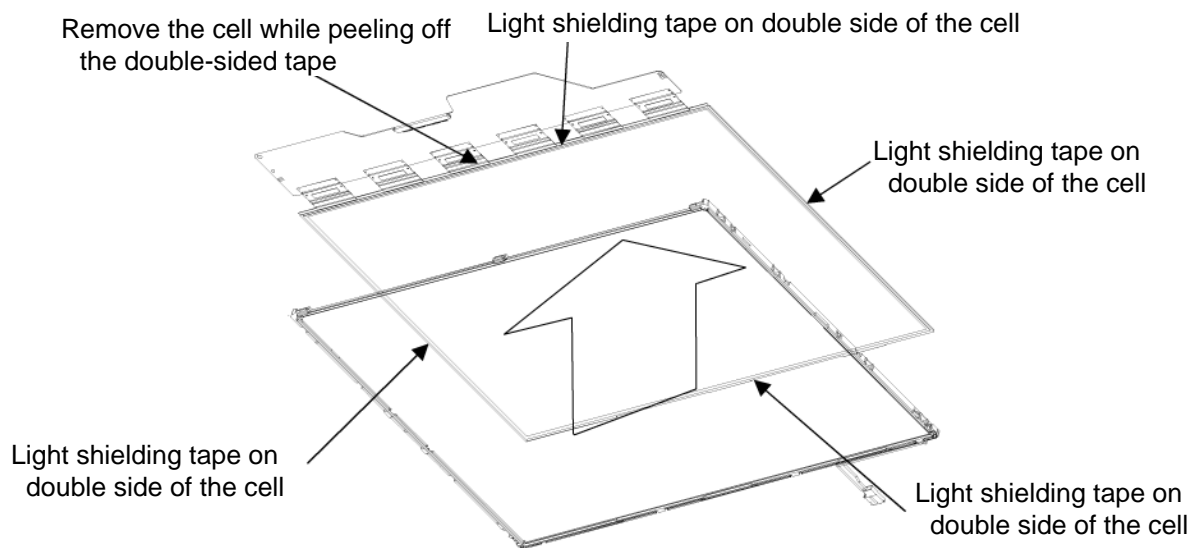

Figure 4-57 Replacing 14.1 Inch TMD fluorescent lamp (SXGA+) (5)
1. Remove the PCB- assembly cell from the backlight unit, as shown in Figure 4-57.